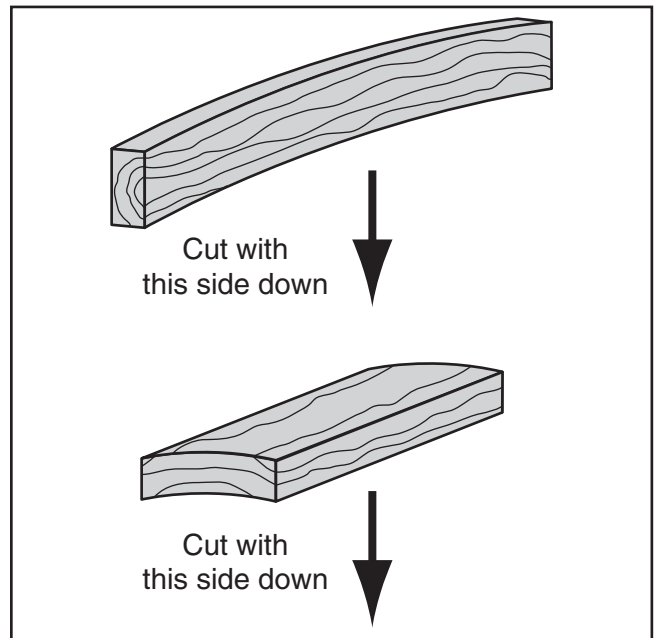

Figure 47. Cutting wood with minor warping.
- **Minor Warping:** Workpieces with slight cupping can be safely supported if the cupped side faces the table or fence, as shown in **Figure 47**. On the contrary, a workpiece supported on the bowed side will rock during a cut, leading to loss of control.